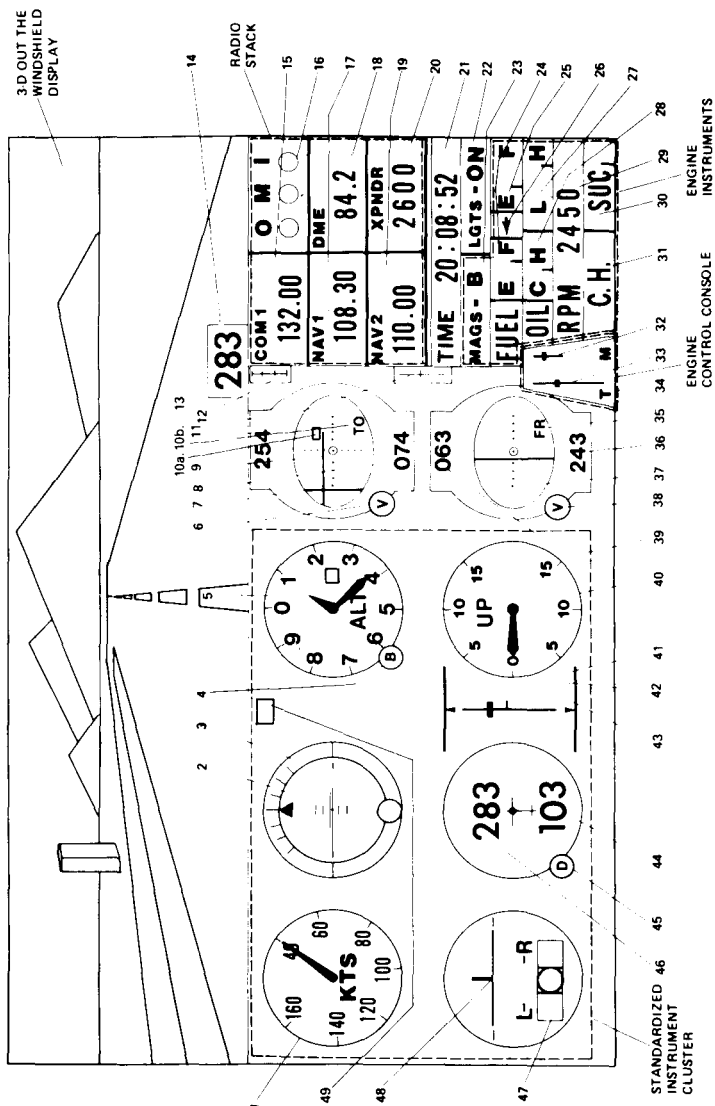

Figure 1. Display Screen
The FS2 has all instruments and equipment required under FAA regulations parts 91.33, 91.24, and 91.52 for day and night visual flight rules (VFR) and day and night instrument flight rules (IFR) under non-icing conditions, including flight within terminal control areas. A digital clock with an *hours, minutes, seconds* readout now is accepted in place of a sweep second hand for instrument flight and is used in the FS2. Figure 1 defines the simulator's 3D display, flight instruments and radios. The display screen is split horizontally into two sections: the upper 3D out-the-windshield display, and the lower half instrument panel and radio stack.
The six basic flight instruments are grouped in the standardized instrument cluster shown in Fig. 1. This cluster includes:
Six radios are provided: the NAV1 and NAV2 (navigation), COM (communication), DME (distance measuring equipment), ADF (automatic direction finder), and transponder (see Fig. 1).
The NAV radios (items 17 and 19) are used to tune-in and identify VOR navigation aids (to be covered later). These are 200-channel radios that receive frequencies between 108.00 and 117.95 MHz with 50 kHz separation. These receivers control the omni-bearing indicators (Fig. 1, items 6-11 and 35-39). The NAV1 radio controls the top omni-bearing indicator, and the NAV2 radio controls the bottom omni-bearing indicator.